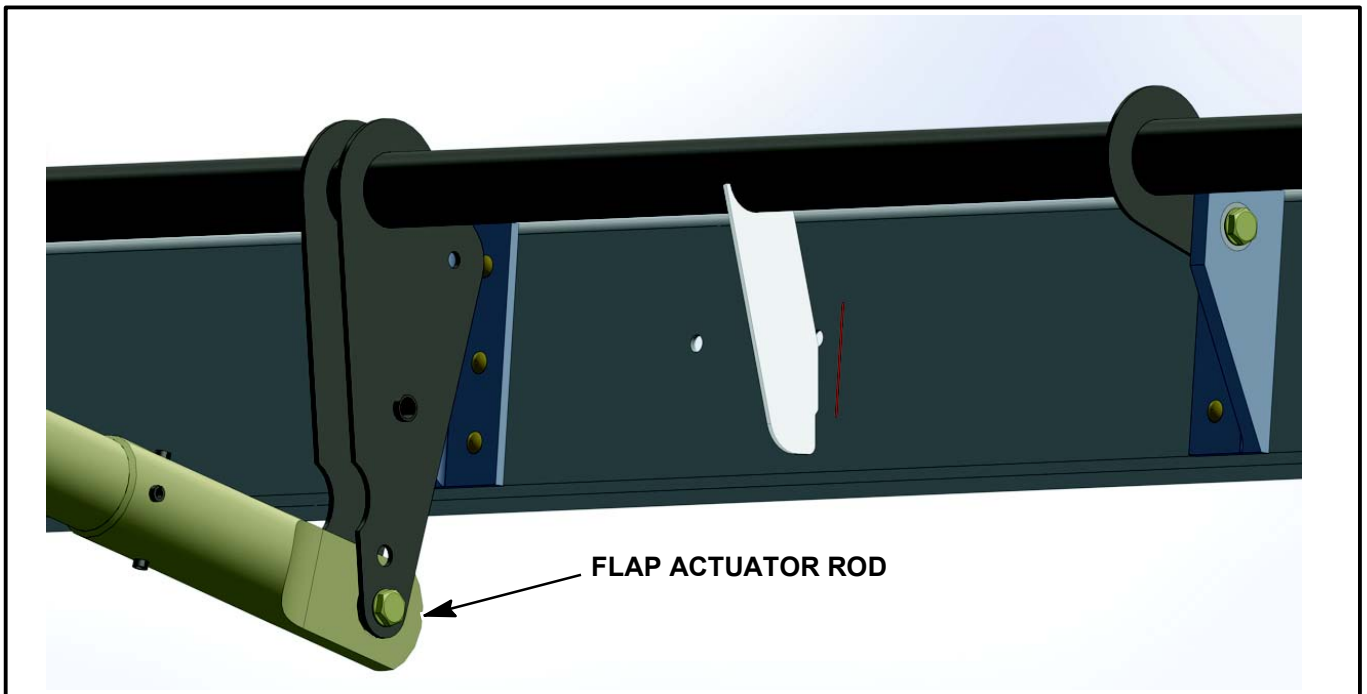

Figure SIM20-142-05 - REMOVE FLAP ACTUATOR HARDWARE AND ROD
- 1.7. From under aircraft, remove three screws, washers, nuts and flap preselect assembly from aircraft, keep for reassembly. (Refer to Figure SIM20-142-05.)